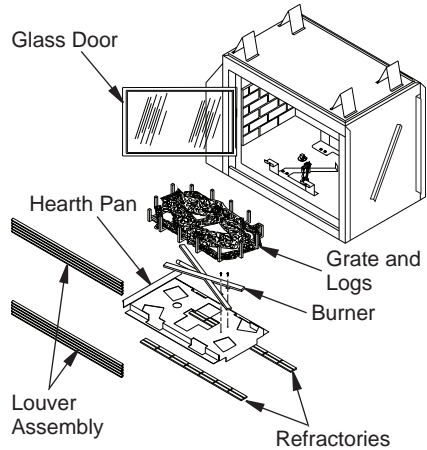

Figure 56 - Burner Removal
2. Carefully remove log set intact and set aside (see Figure 56, page 27).